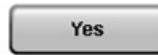

Figure 5.2.18-Alternate Sequence Selection
- 16) **Alternation** is used to alternate pump sequence in automatic operation mode. When alternation method is selected on pump run hour base, this button gets disabled. This button is shown in Figure 5.2.18.